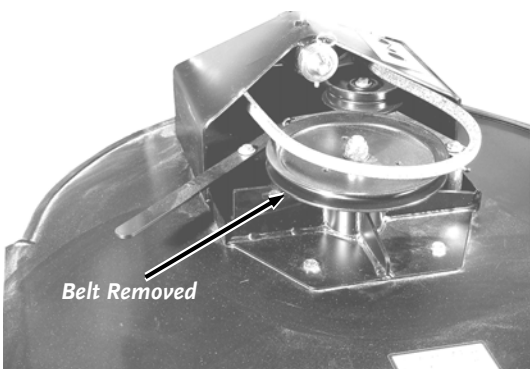

Figure 30
3. Remove the Belt from the Pulley (**Figure 30**).